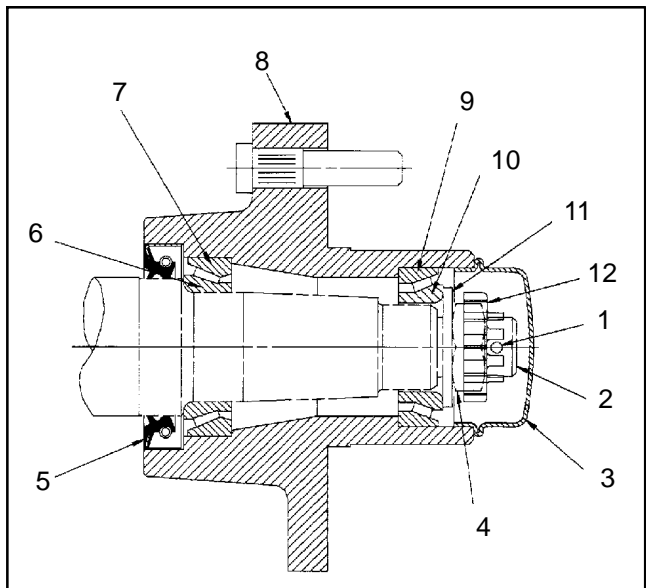

Figure 6
8. Lubricate the inside of the new lip seal (22) and press it into the wheel hub.
9. Pack inside of wheel hub with some grease (not full). Install remaining bearing (11) into bearing cup (10).
10. Slide wheel onto the spindle shaft and secure it in place with the flat washer (18), nut (17), and retainer nut (50). **Do not tighten nut or install the cotter pin.**
11. Adjust preload on the wheel bearings (Fig. 6).